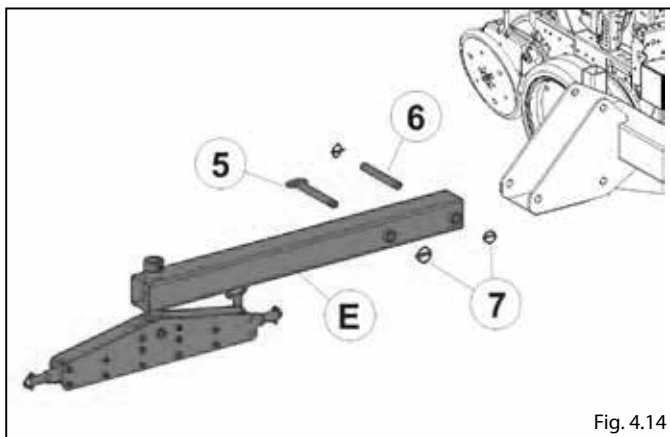

Fig. 4.14
- Mount the towbar **E** by fixing it with pins **5 - 6 - 7** (Fig.4.14).